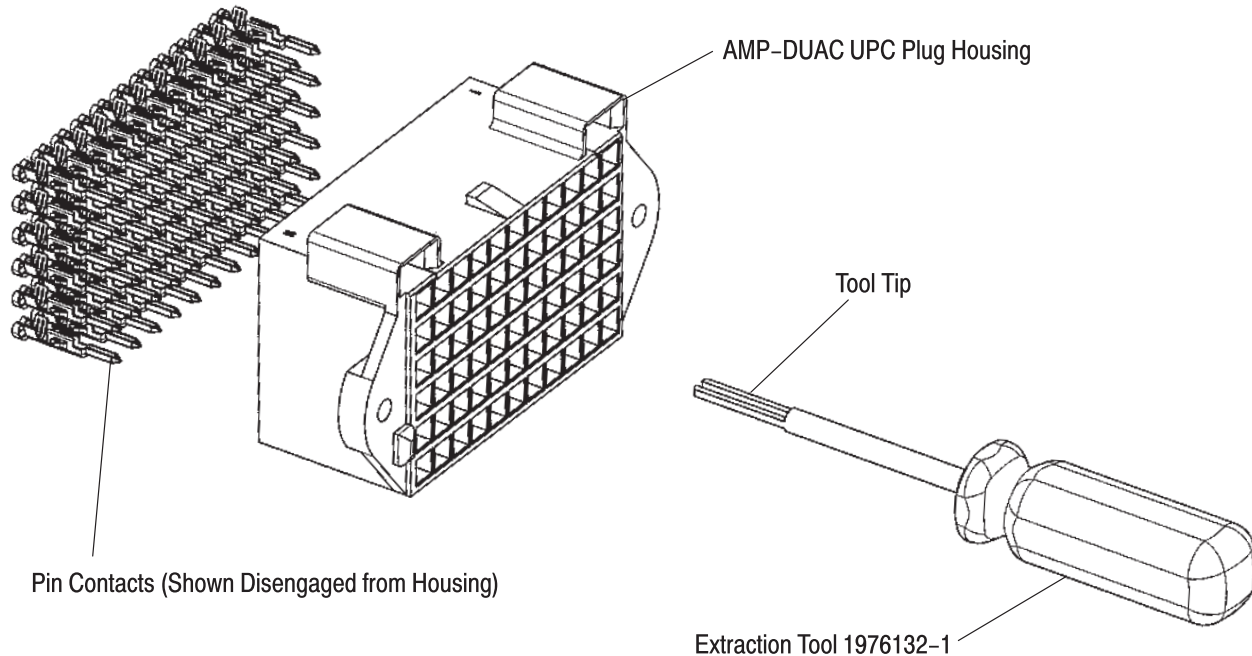

Figure 1
**3. EXTRACTION PROCEDURE** (Figure 1)